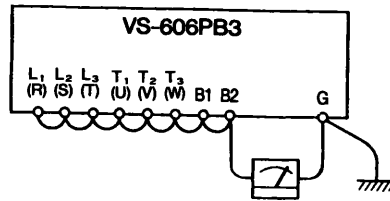

Fig.8 High Voltage Test
- (1) Remove the inverter main circuit and control circuit terminal wiring and execute the test only between the main circuit terminals and ground [ground terminal (G) (E)] as shown in Fig.8.
- (2) The equipment is normal with the insulation resistance tester indicating $1M\Omega$ or more.